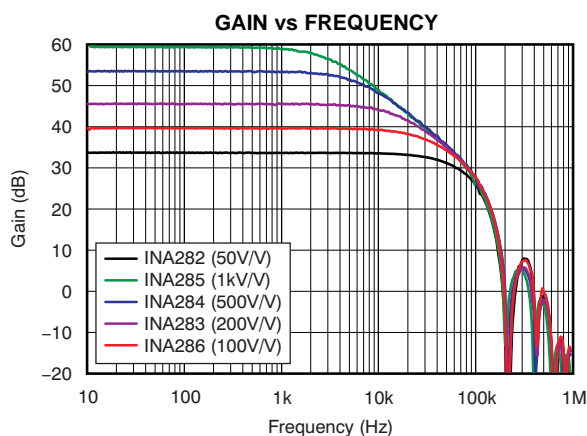

Figure 15.
(7) See typical characteristic graph Figure 15 and the *Effective Bandwidth* section in the Applications Information.
(8) RTI = referred-to-input.